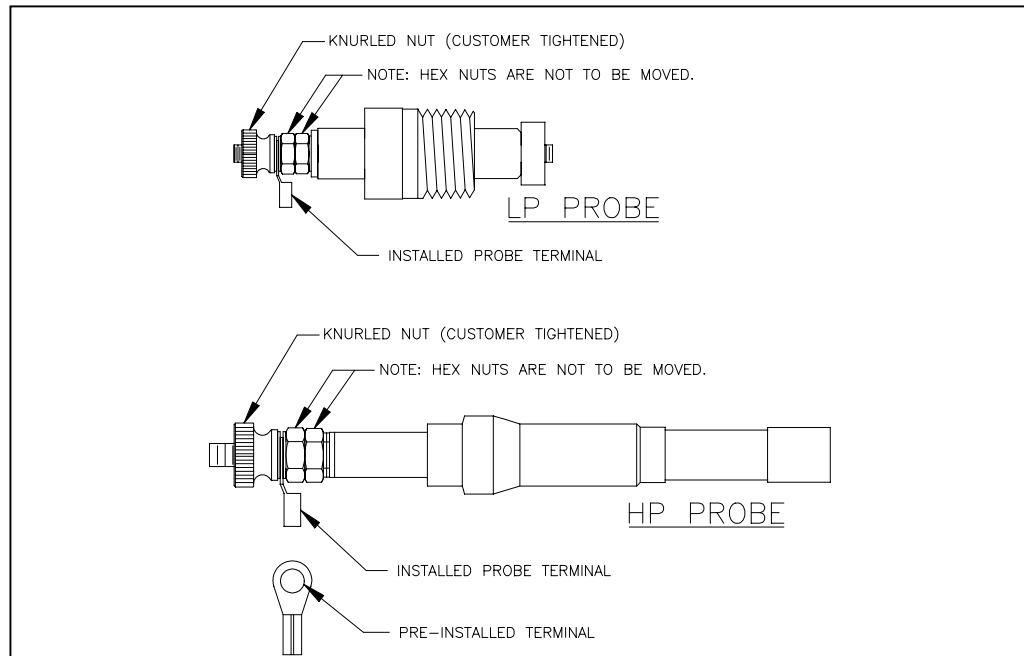

Figure 1 - Probe Assembly
For all other applications, probes with the zirconium oxide (ceramic) insulators must be used. The high pressure (HP) probes are easily recognized by the brazing between the insulator and the body (fig 1). The two styles of probes are not interchangeable and will not fit in a receptacle designed for the other. LP probes use a threaded fitting, the HP a compression fitting. Refer to the Water Column I.O.M. for details on both the HP and LP probes.